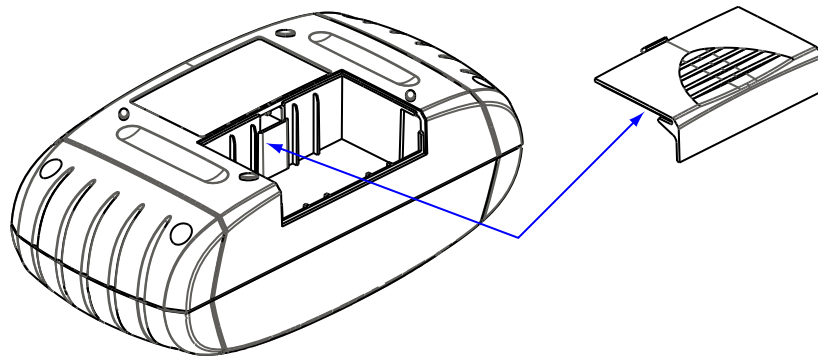

Figure 8-1 *Battery cover removal*
2. Pivot the battery cover up slightly, then lift it off of the unit. (Figure 8-1).